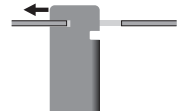

Figure 3
5. Press the right end of the bracket in to the left so that the slotted tabs lock to the amplifier and will not pull out (Figure 3).